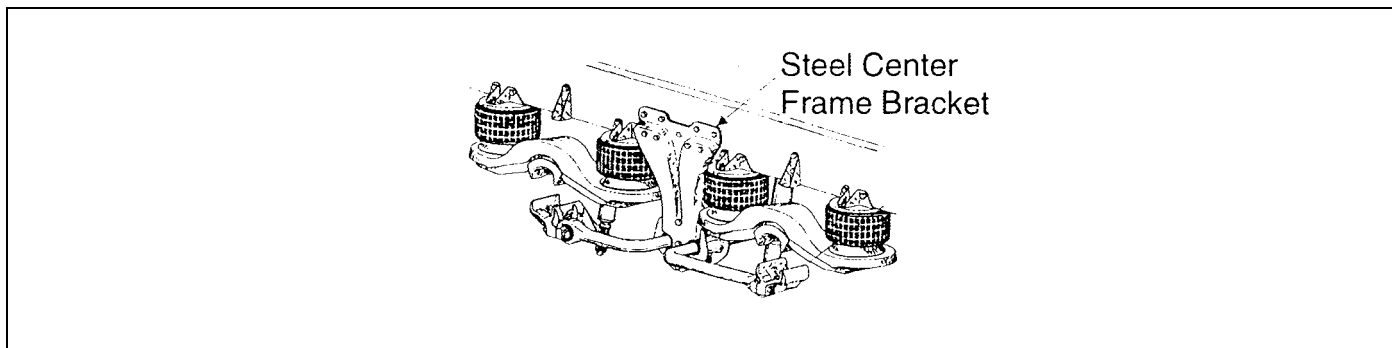

Figure 17-10
1. Remove existing steel center frame brackets and lower bogie gusset. See Figure 17-10.